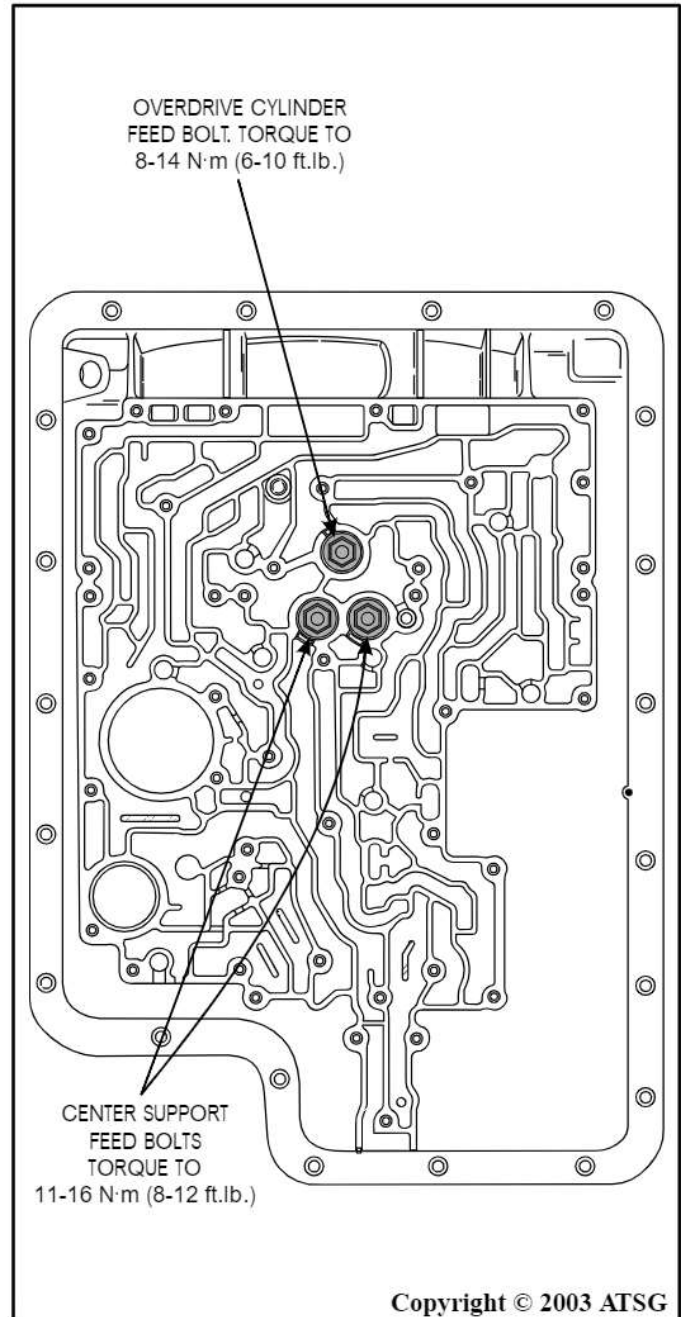

Figure 187
40. Torque overdrive clutch cylinder feed bolt to, 8-14 N·m (6-10 ft.lb.) (See Figure 187).
41. Torque both of the center support feed bolts to, 11-16 N·m (8-12 ft.lb.) (See Figure 187).